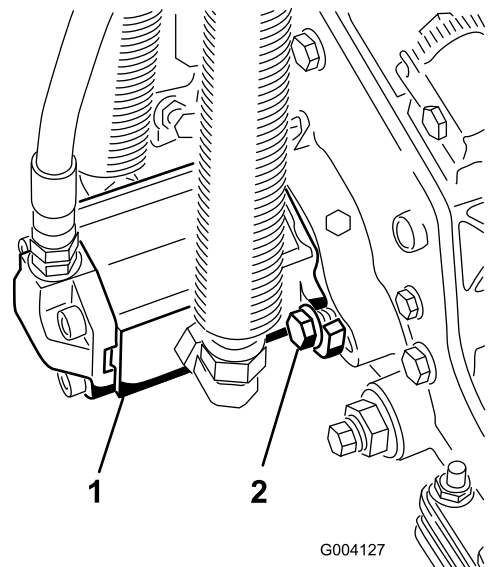

**Figure 10**
12. Secure the lift arm chain to the chain bracket with the snapper pin (Figure 10). Use the number of chain links described in the cutting unit *Operator's Manual*.